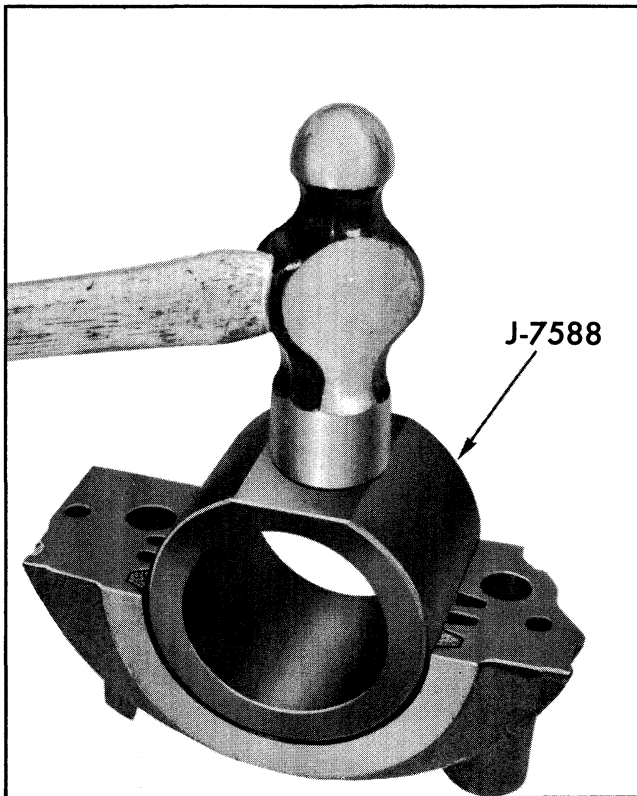

Fig. 6-131 Forming New Seal in Cap
6. Form a new seal in the cap (Fig. 6-131).
7. Remove the newly formed seal from the cap and cut four (4) pieces approximately $\frac{3}{8}$ " long from this seal.
9. Form another new seal in the cap (Fig. 6-131).